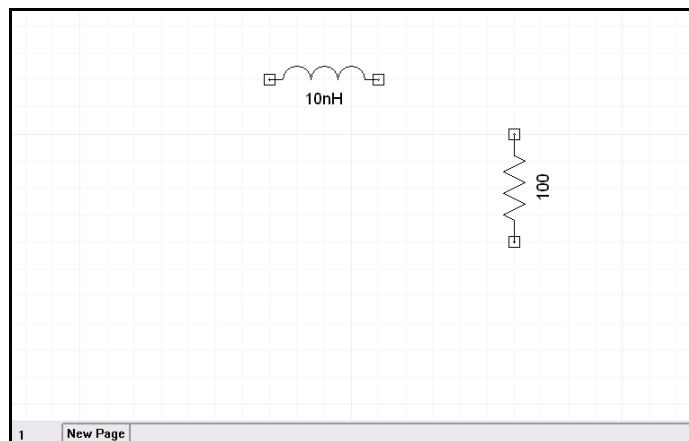

Figure 3. Inductor and resistor placement.
- Resistors are also listed under lumped elements. Return to the **Components** window and select **Resistors**. Click and drag the **RES: Resistor** onto the schematic area but don't release as yet. To rotate the resistor like that shown in Fig. 3, press the key R, place and hit **Esc**.